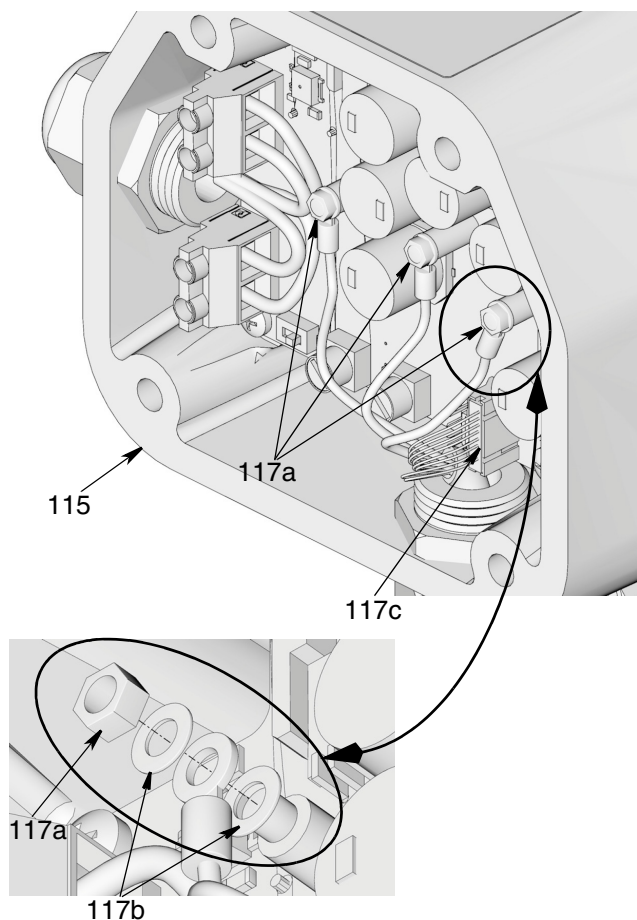

FIG. 69
4. Connect sensor (117c) (FIG. 69).